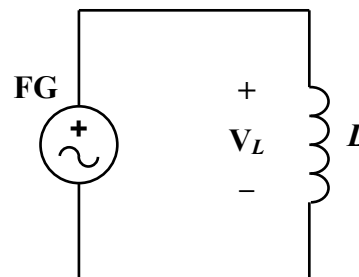

Figure 10.5 $Z_L = R_L + j\omega L$
4. Connect the FG to the 33 mH inductor (**Figure 10.5**). Adjust the FG output for a purely sinusoidal signal of 4.0 V_{p-p} (2.0 V_p) at 400 Hz, as measured on the scope, and record the actual values in the title of **Table 10-2**. **Make sure the DC Offset of the FG is zero.**